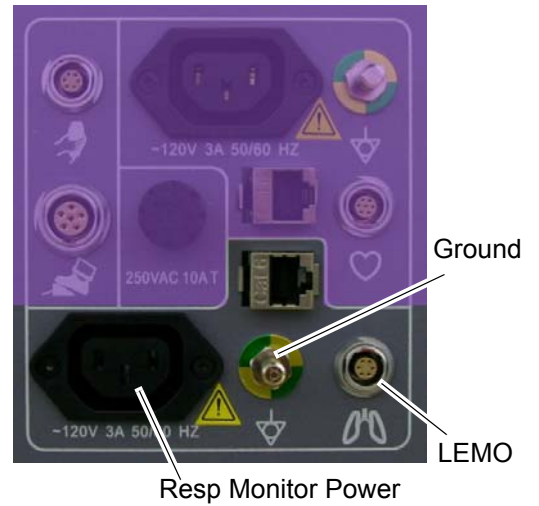

Figure 2-30 Option Interface Panel
- 1.) Power outlet, ground and LEMO connector for the Respiratory Monitor are provided as shown in Figure 2-30.